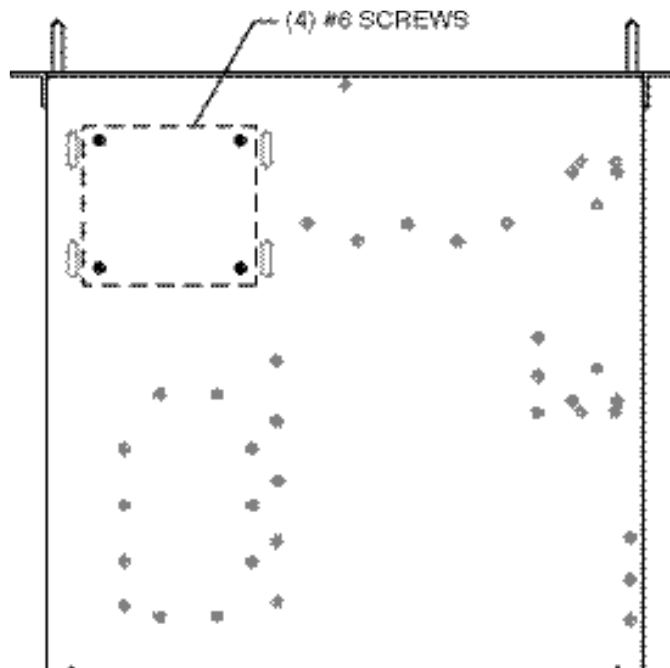

Figure 5-6. Drive Assembly Location on Bottom Chassis
- (4) Turn the VR320 on its left side and remove the four screws used to hold the entire drive assembly to the bottom chassis (Figure 5-6). Be careful not to let the drives fall.